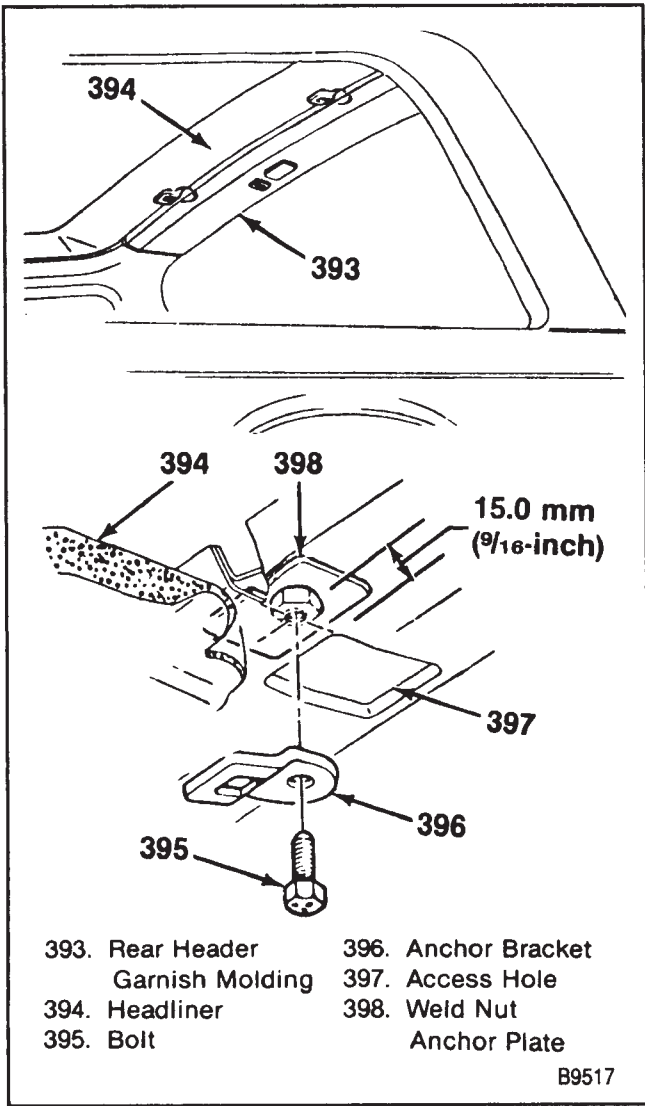

Figure 23—Utility Vehicle Top Belt Anchor Installation Points
1. Remove the rear header garnish molding (figure 23).
7. Install a M3 x 1.25 x 25.0 bolt through the anchor bracket (396), the headliner, and into the anchor plate (398).